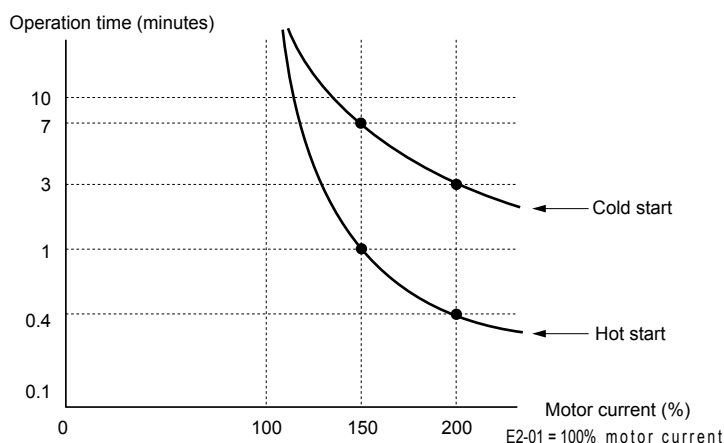

Figure 5.76 Motor Protection Operation Time
- **Figure 5.76** shows an example of the electrothermal protection operation time using a general-purpose motor operating at 60 Hz with L1-02 set to one minute.